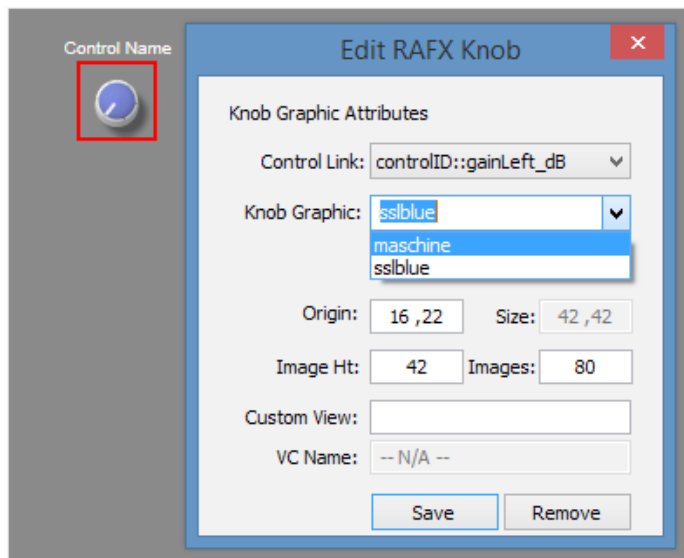

Figure 3: right-clicking the knob and selecting the graphic in RackAFX
Using either the Templates or Objects tabs, drag and drop the knob controls into the GUI designer. Here I am using the Knob Group B template. I first set the label text, then work on the knob, changing the graphic and selecting the control ID from the list as the connector as shown in Figure 3. Make sure you set the `Image Ht` and `Images` attributes correctly. All of the pre-supplied knobs have the same dimensions (42,42), Image Height (42 pixels) and number of images (80).